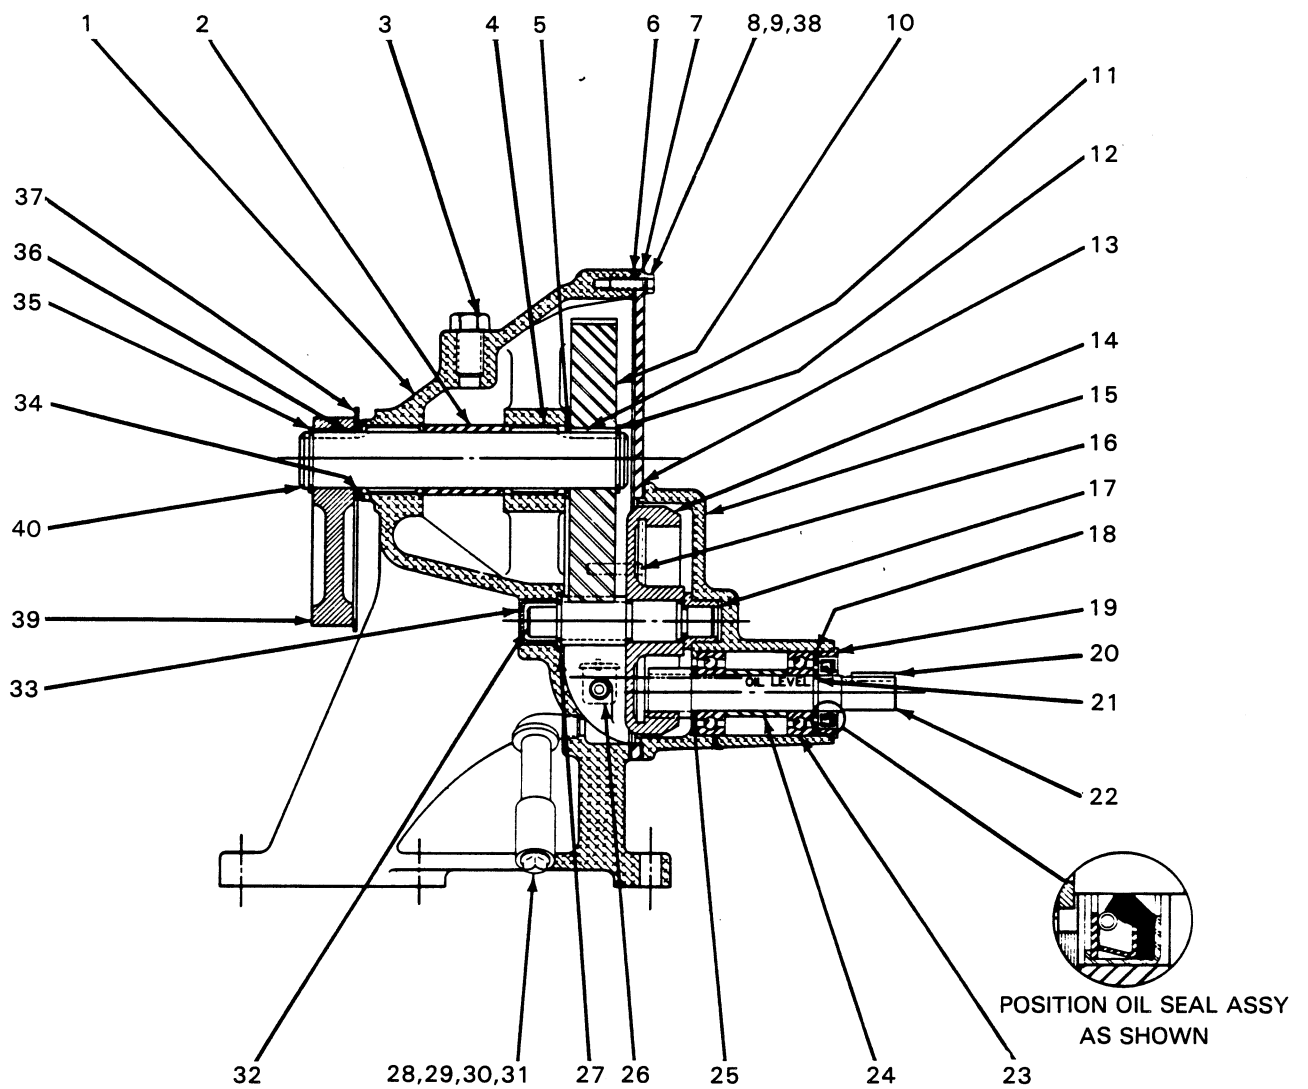

Figure 4. 44161-008 Gear Box Assembly
**Gear Box Disassembly (See figure 4)**
Install the drive shaft washers. Inspect the oil seal assembly, and replace as necessary. Install the oil seal assembly with the lip positioned as shown in figure 4.